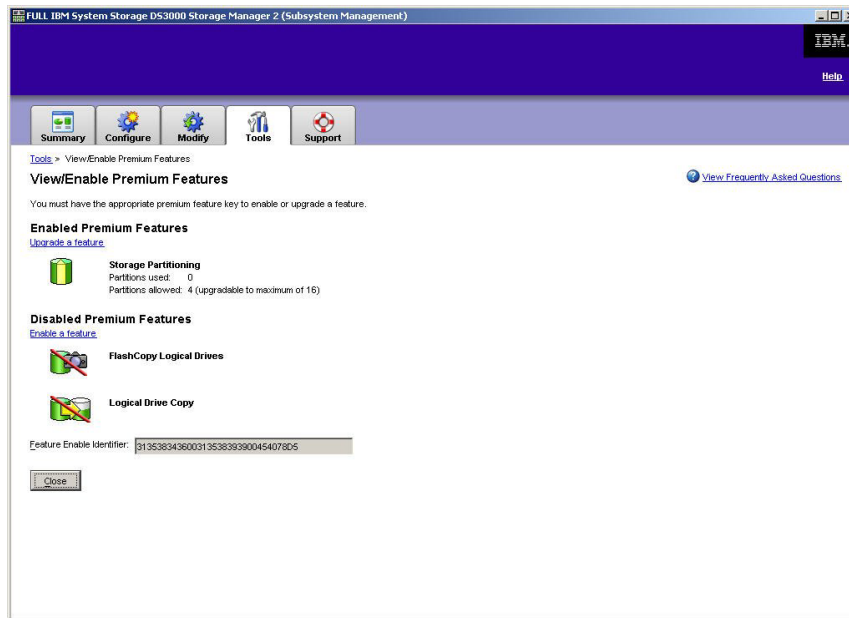

Figure 29. View/Enable Premium Features window
2. Under **Enabled Premium Features**, click **Upgrade a feature**, as shown in Figure 29 on page 110.
2. Under **Disabled Premium Features**, click **Enable a feature**, as shown in Figure 29. The Select Feature Key File window opens.